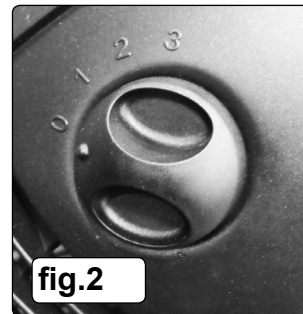

fig.2
- 3.3. The fan is supplied with a switch providing 'off' and 3 speed settings.(fig.2)